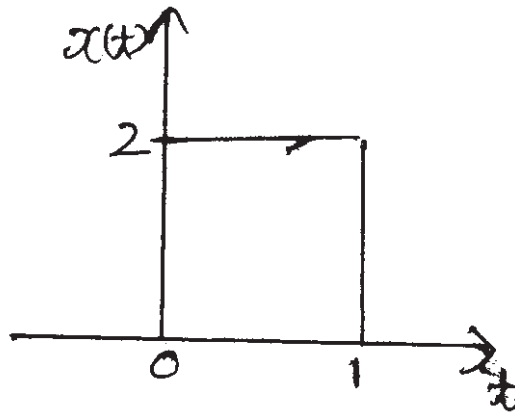

figure 2
b) Find  $X(w)$  for the given signal, (Refer to figure 2). [4]